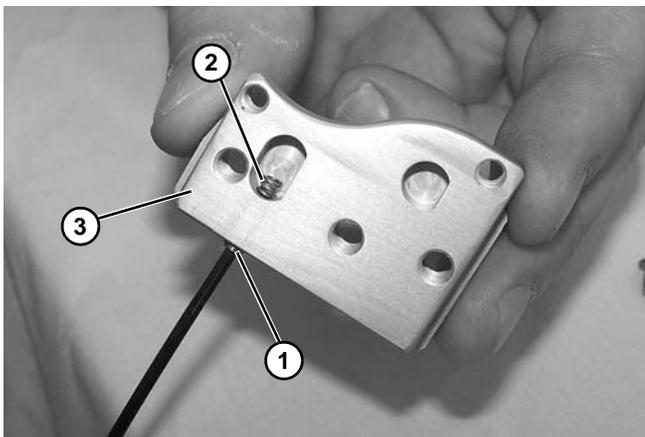

Figure 42
- Remove set screw (Figure 42, item 1) and compression spring (Figure 42, item 2) from roller mounting block (Figure 42, item 3).